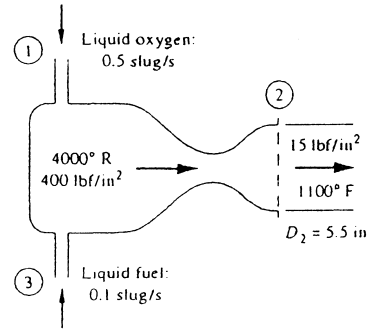
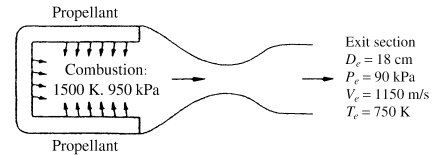

Fig. P3.34
Fig. P3.35
3.34 A rocket motor is operating steadily, as shown in Fig. P3.34. The products of combustion flowing out the exhaust nozzle approximate a perfect gas with a molecular weight of 28. For the given conditions calculate V_2 in ft/s.
3.35 In contrast to the liquid rocket in Fig. P3.34, the solid-propellant rocket in Fig. P3.35 is self-contained and has no entrance ducts. Using a control-volume analysis for the conditions shown in Fig. P3.35, compute the rate of mass loss of the propellant, assuming that the exit gas has a molecular weight of 28.